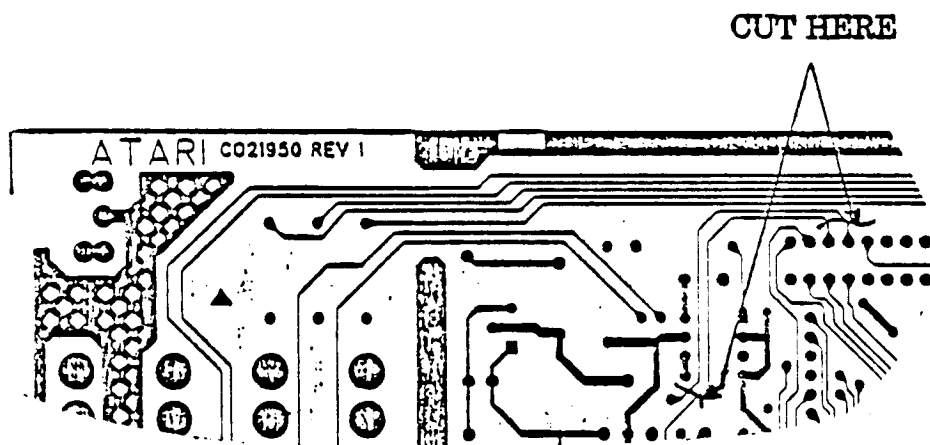

Figure 1. Trace Cuts
1. On the solder side of the Adaptor PCB, carefully cut the traces shown in Figure 1.